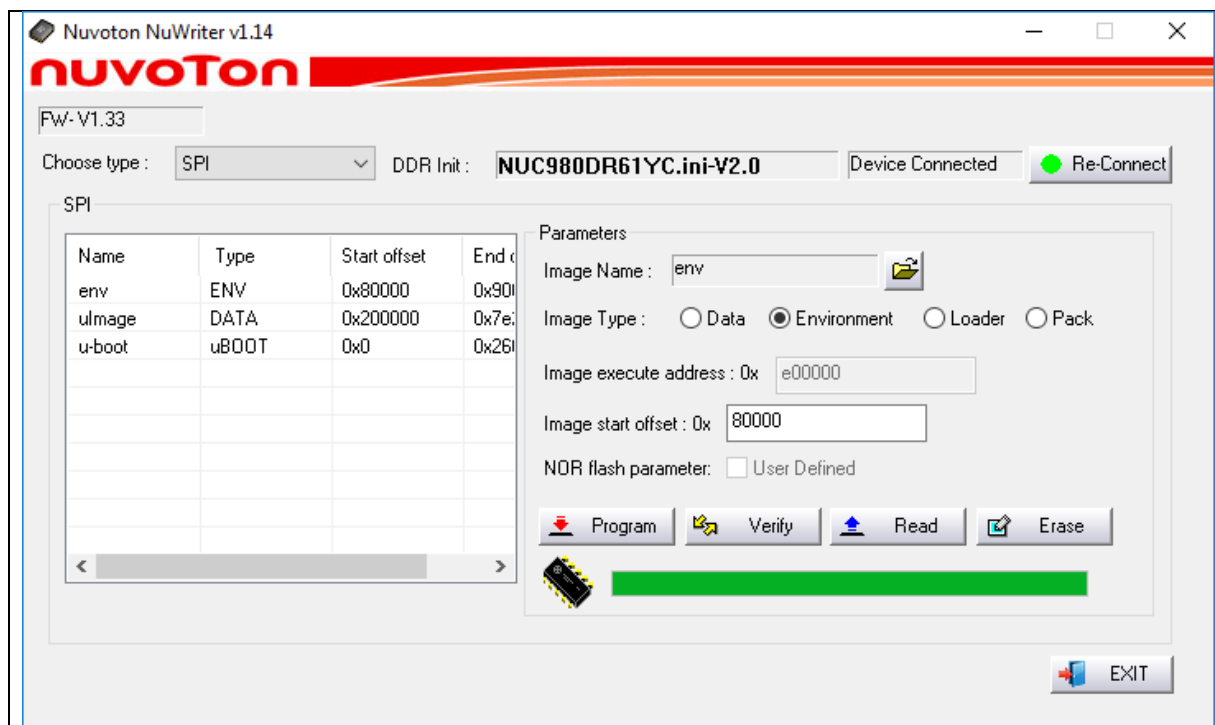

Figure 4-8 Program environment
6. According to Figure 4-8, following the steps below to program environment: